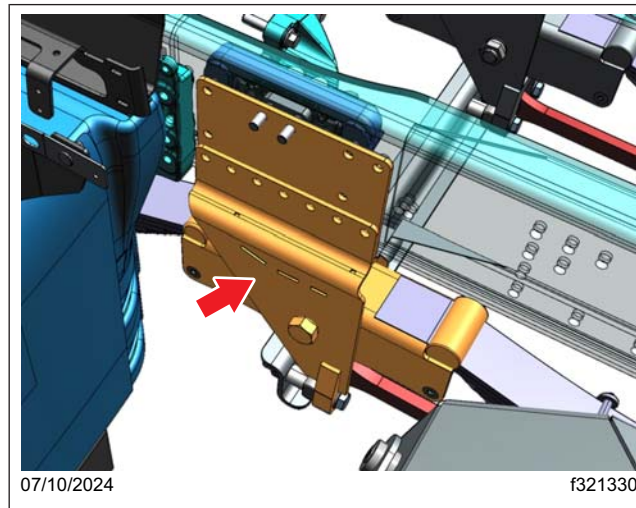

Fig. 11, Left-Hand Side Mid Suspension Hanger Assembly
6. Remove the mid-suspension hanger assembly and move the hanger outward to clear the fasteners that cannot be removed. See Fig. 11.